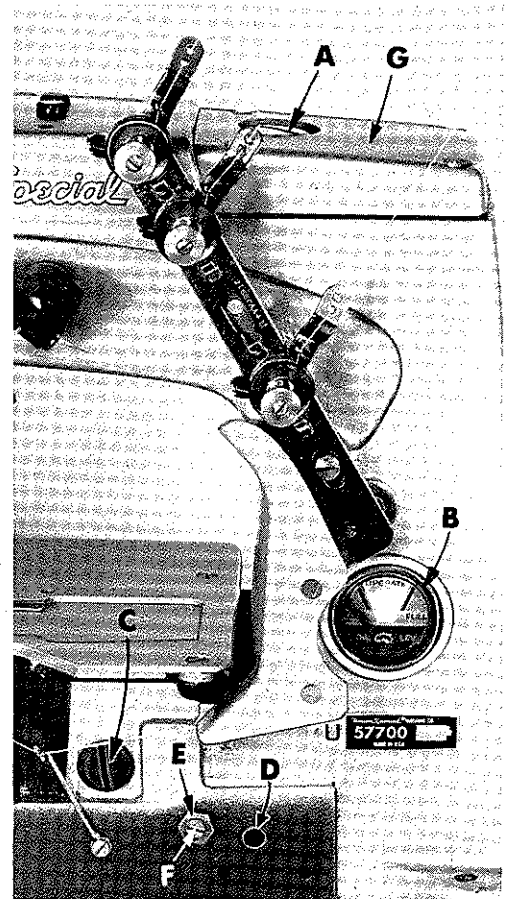
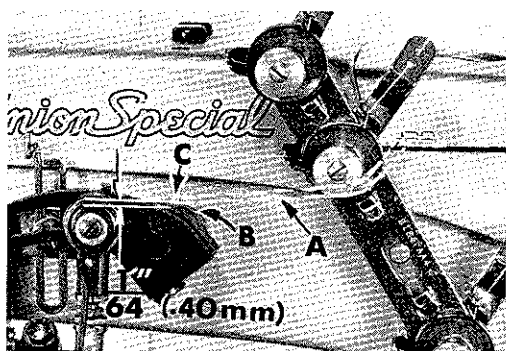

Fig. 2
Fig. 3
Use a straight mineral oil of a Saybolt viscosity of 90 to 125 seconds at 100° Fahrenheit in the main reservoir. This is equivalent to Union Special specification No. 175. Fill main reservoir at plug screw in upper crank chamber cover (A, Fig. 2) and check oil level at gauge (B). Oil is at maximum level when needle is in gold band marked "Full". Oil should be added when needle is in gold band marked "Low".
Oil may be drained from main reservoir by removing plug screw (C, Fig. 2) located below the cloth plate at front of the machine.
2. Remove the oil reservoir plug screw (C, Fig. 2) and tip machine forward to drain oil from the reservoir.
5. Fill main reservoir to a level even with the bottom contour of the knee press shaft bushing (D, Fig. 2).
6. Loosen lock nut (E) on calibrating screw (F), and turn the screw to the left or right until the gauge needle rests in the middle of the gold band marked "LOW".
7. Tighten lock nut (E) and replace plug screw (C).
Remove the head cover and upper crank chamber cover (G, Fig. 2). Check position of needle lever bearing oiler (A, Fig. 3) located inside the arm casting, below the upper crank chamber cover, which lubricates the needle lever stud (B). Make sure it is tilted downwardly and that its delivery end (C) contacts the inside wall of the bed casting at the back, just above the notch of the needle lever shaft stop collar. (Do not allow the oiler to rest on the needle lever). Allow 1/64 inch (.40 mm) clearance as in Figure 3.